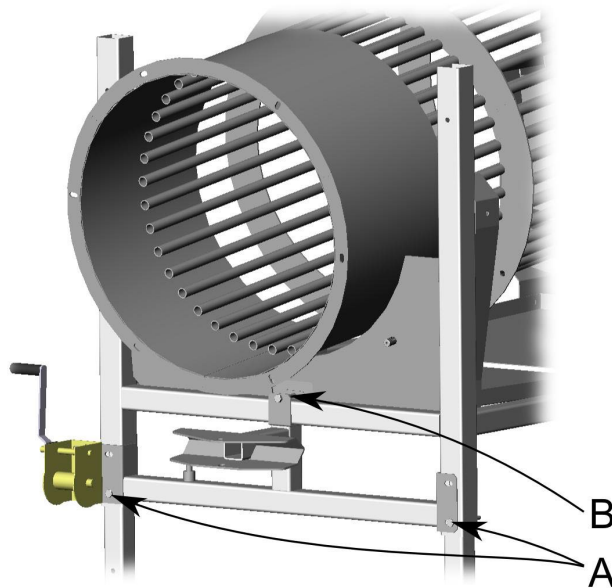

Fig. 3.
- Fix the conveyor bearer to the debris drum using hexagon bolts A and B, as illustrated in Fig. 3.
- Fix the hexagon bolts A (Fig. 3) to the same holes for the height adjustment of the legs.